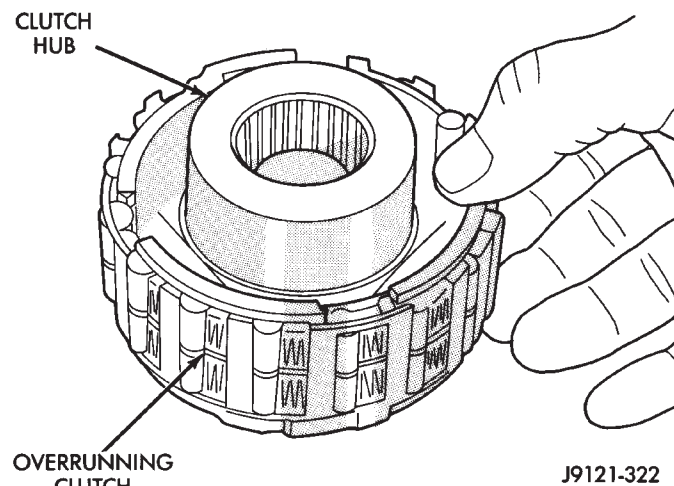

Fig. 40 Assembling Overrunning Clutch And Hub
(8) Install overrunning clutch on hub (Fig. 40). **Note that clutch only fits one way. Shoulder on clutch should seat in small recess at edge of hub.**